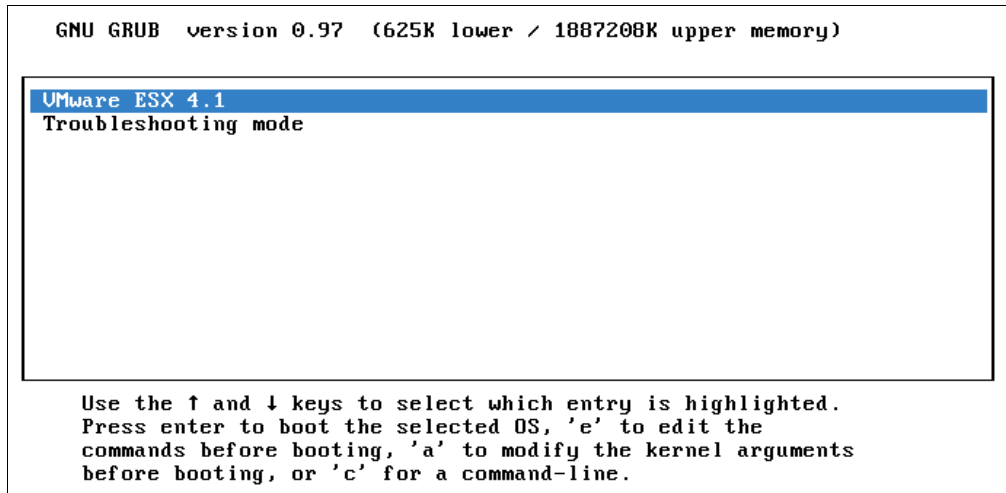

Figure 6-71 VMware ESX GRUB
1. At the VMware bootloader panel, press a to modify the kernel arguments. Be sure that **VMware ESX 4.1** is highlighted, as shown in Figure 6-71 on page 285.